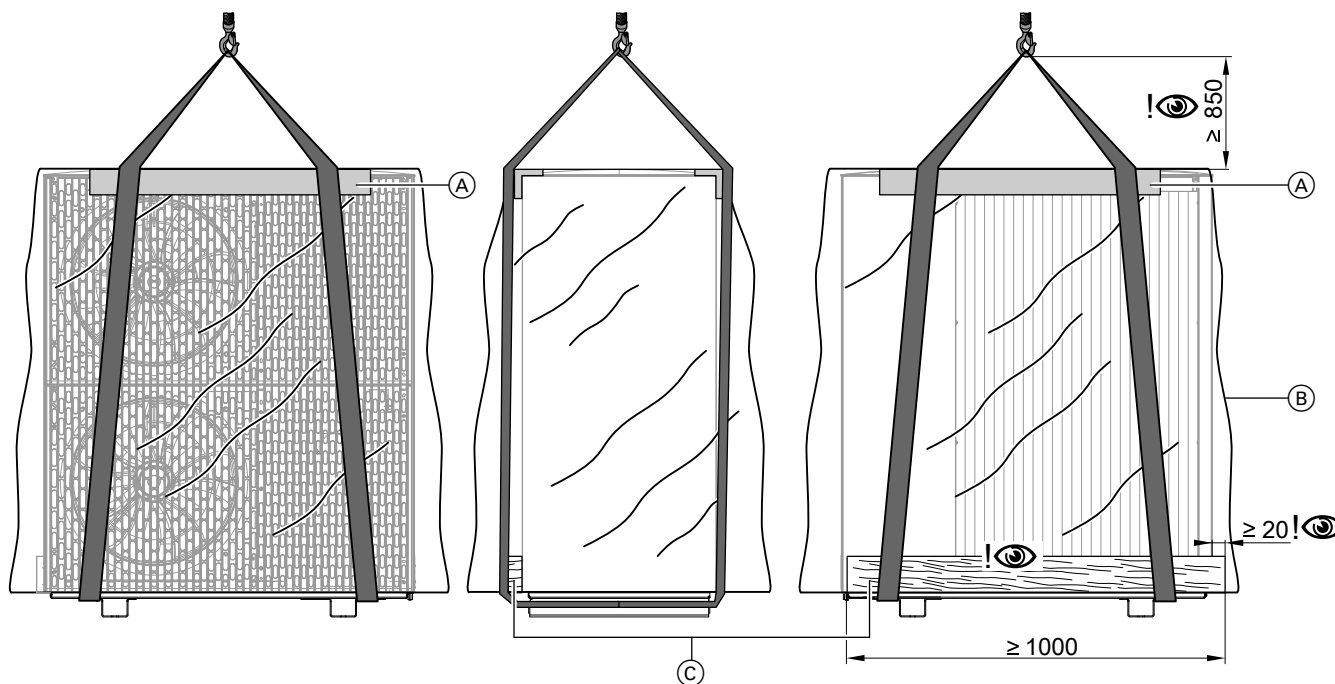

Fig. 9 Transport by crane using the example of the outdoor unit with 2 fans
3. Position the edge protection profiles of the packaging at the front and rear upper edges of the outdoor unit. Place slings properly around the outdoor unit: See Fig. 9.